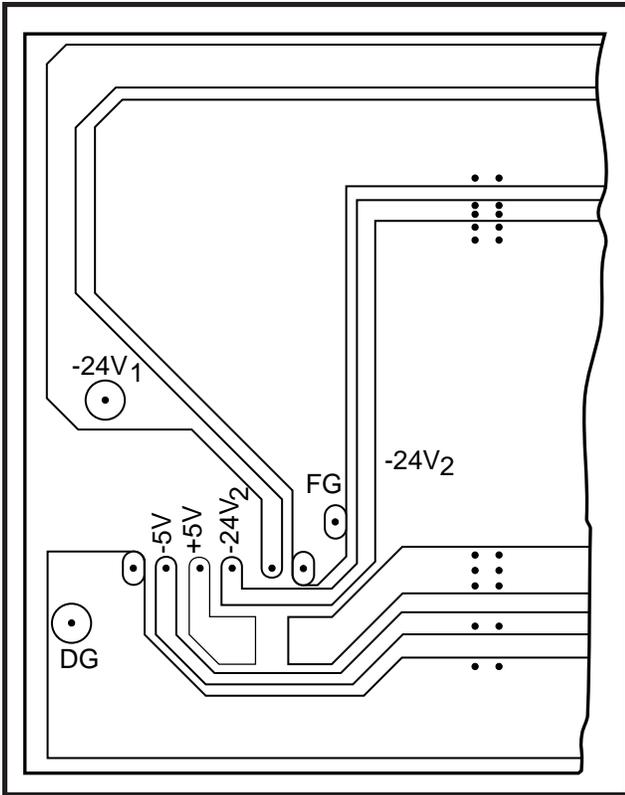

FIGURE 5-6
- On the lower left side of the backplane PCB (PMB-824), the test points for the various voltages are marked. Refer to Figure 5-6.